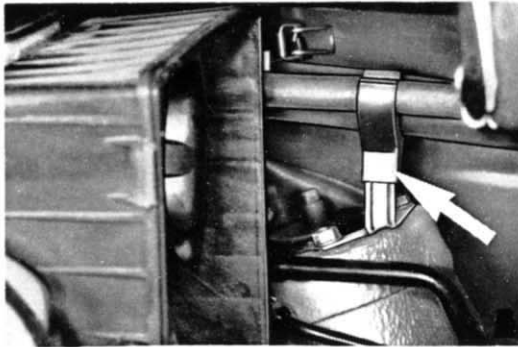

Figure 7
8. Check clearance between wiring harness and vent hoses. Distance should be at least 15mm. If necessary, bend bracket on right shock absorber mounting slightly forward (arrow in Figure 7). Make sure vent hoses are properly installed on bracket at shock absorber mounting and on bracket in front of air flow meter. The small diameter hose must be routed below the large diameter hose.